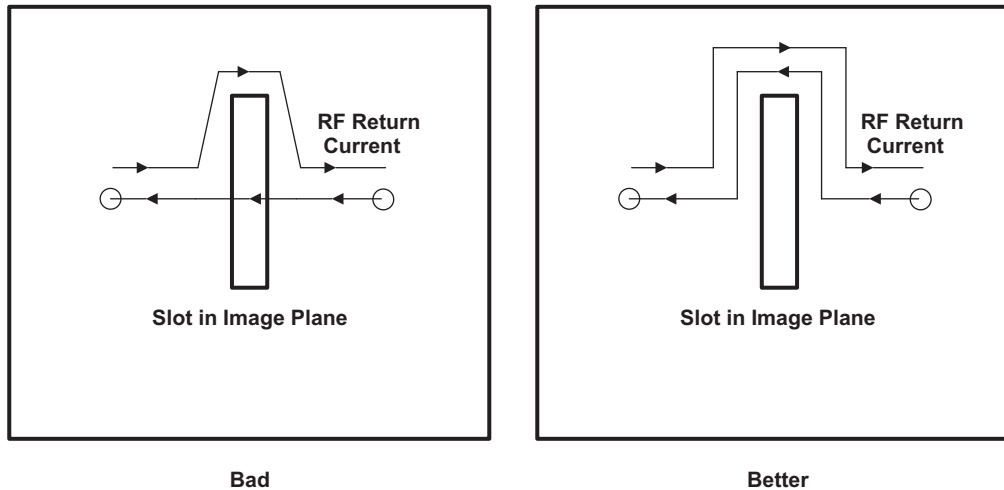

图 7-38. Do Not Violate Image Planes
- Avoid image plane violations. Traces that route over a slot in an image plane results in a possible RF return loop, as shown in 图 7-38.